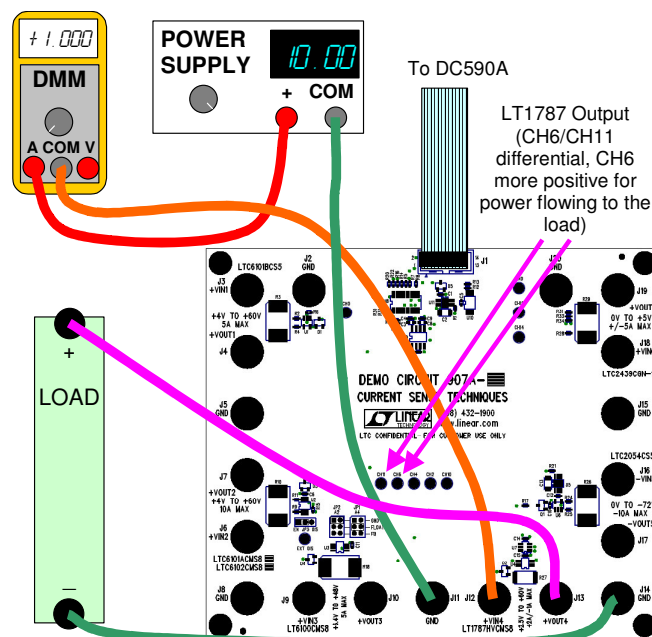

Figure 9. LT1787 Power and Load Connection
1. Refer to Figure 9 for the following connections.
5. For time-domain measurements and/or stand-alone evaluation, the differential current-monitor output signal is available on the CH6/CH11 turrets as indicated in Figure 9.